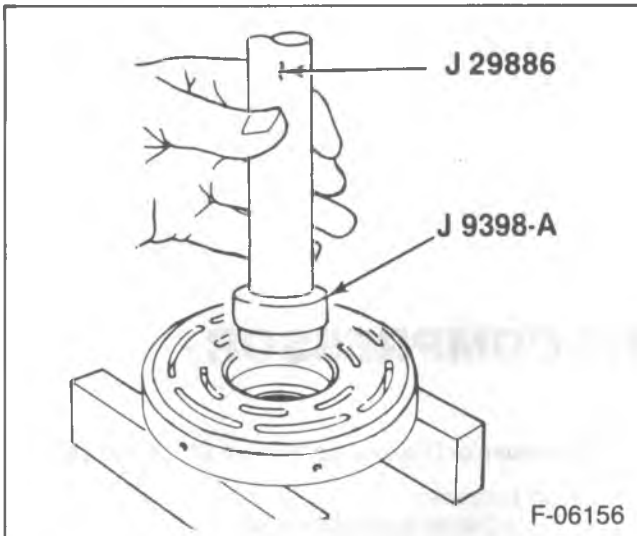

Figure 11—Removing the Clutch Rotor Bearing
3. Bearing from the clutch rotor using J 29886 and J 9398-A (figure 11).